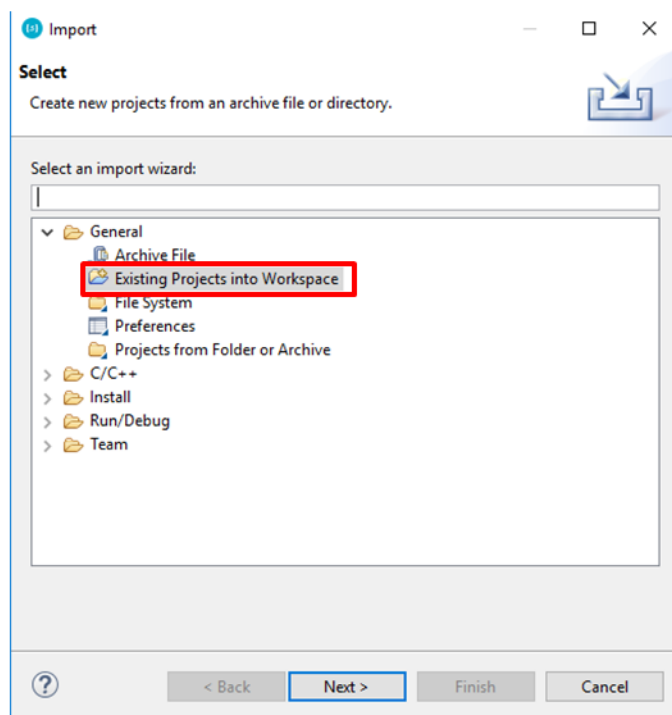

Figure 12: Insert Existing Project into Workspace
7. To insert an existing project, click **File > Import**. The Import window now will open and users should select "**Existing Projects into Workspace**" from the root tree "**General**" (Figure 12) and then click "**Next**".